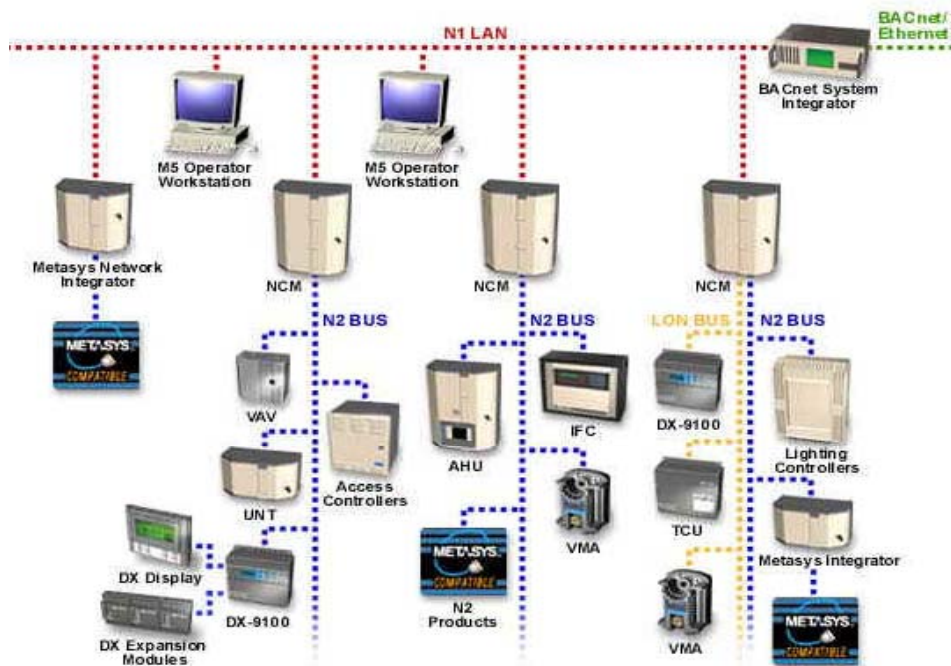

Fig. 2 Metasys N2 Network Overview
- Bus topology : Master-Slave communication. Fig. 2 gives an overview of a Metasys N2 network.